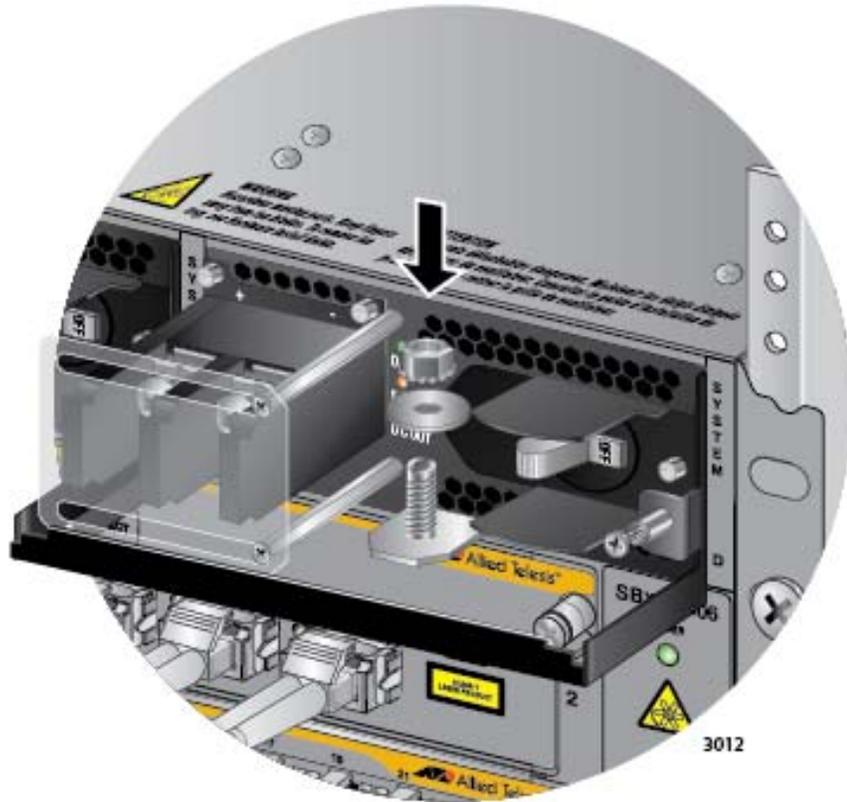

Figure 149. Reinstalling the Nut and Washer on the Grounding Post
10. Reinstall the nut and washer on the grounding post. Refer to Figure 149 on page 218.